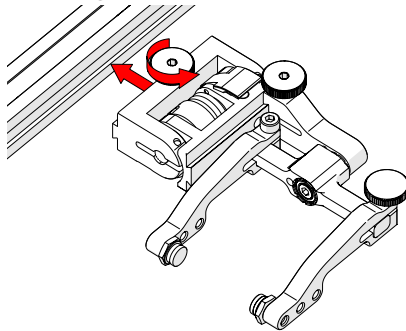

Fig. 44 - Attach to frame bar
1. Rotate the probe holder adjustment knob and attach the probe holder to a frame bar (Fig. 44).